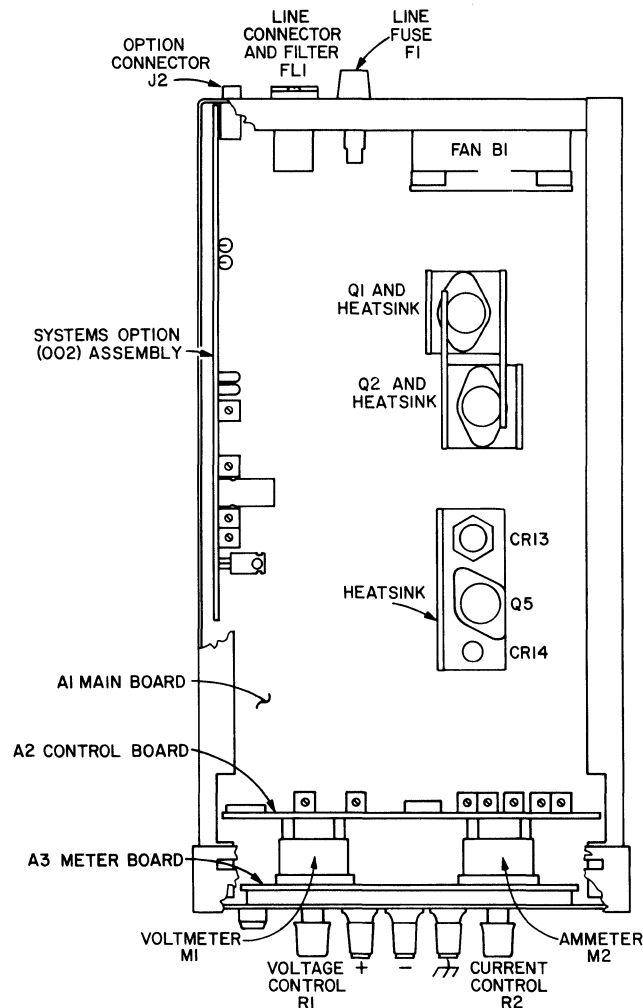

Figure 7-1. Top View, Cover Removed
- a. Component location diagrams (Figures 7-1 through 7-3), showing the physical location and reference designators of almost all electrical parts. (The four front-panel LEDs are mounted on the A3 Meter Board and are identified by lettering on the board and front panel.)